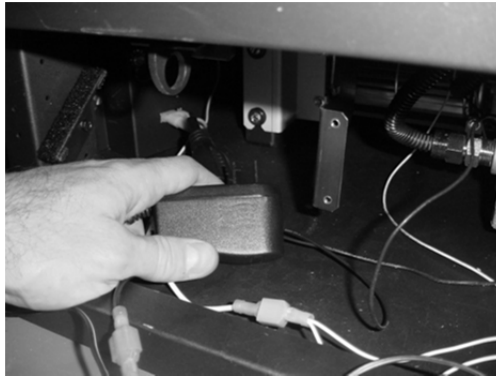

Figure 6
- 3 Unplug the ac adapter from the power harness (see Figure 6). You can leave the ac adapter plugged into the wiring harness.